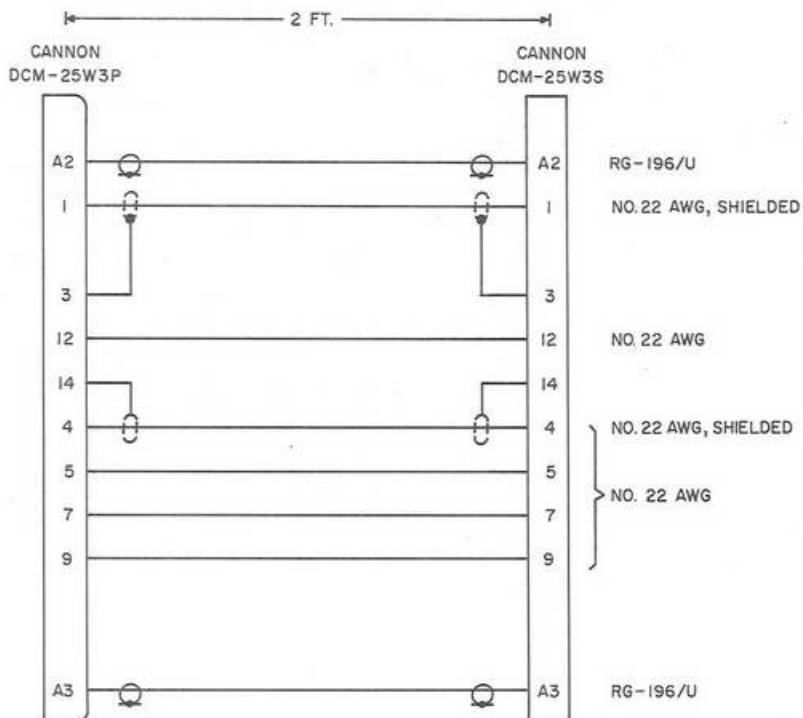

Figure 5-4. Power Extender Cable.
When faulty receiver operation has been traced to the plug-in tuning unit, the following minimum performance standards charts will assist in further localizing the difficulty to a particular module or circuit. Before attempting to evaluate the performance of the tuning unit, be assured that the receiver power supplies are functioning normally in accordance with paragraph 4.A. (4) of NAVSHIPS instruction manual 0967-282-0010. Figure 5-4 illustrates the power extender cable which is required to operate the tuning unit outside the receiver housing. The performance standards for the various modules of the tuner are given in Tables 5-3 through 5-5.
- NOTES: 1. TN-519/WRR RF tuner connected to right hand tuner receptacle of Countermeasures Receiver R-1524(P)/WRR with extender cable (Figure 5-4).
- NOTES: 1. TN-520/WRR RF tuner connected to right hand tuner receptacle with extender cable (Figure 5-4).
Alignment of the 250 to 500 mc RF tuner is divided into tuning head and 60 to 21.4 mc converter alignment. Countermeasures Receiver R-1524(P)/WRR and the tuner should be placed on a workbench adjacent to the test equipment being used for alignment to facilitate the use of short cables and test leads. The power extender cable illustrated in Figure 5-4 should be connected between the rear of the tuning unit and the right hand connector J5 on the main chassis of the receiver. Place the following receiver front panel switches and controls to the positions indicated below before performing alignment.